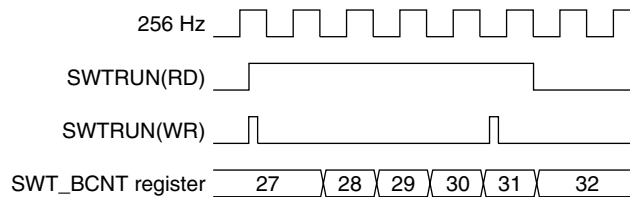

Figure 14.5.2 Run/Stop Control Timing Chart
- The timer switches to Run/Stop status synchronized with the 256 Hz signal falling edge after data is written to SWTRUN. When 0 is written to SWTRUN, the timer stops after counting an additional “+1.” 1 is retained for SWTRUN reading until the timer actually stops. Figure 14.5.2 shows the Run/Stop control timing chart.